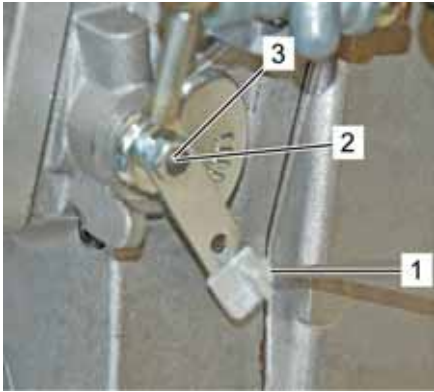

Fig. 28
2. Put the speed adjustment lever in the increased idle speed position (Fig. 28/3).